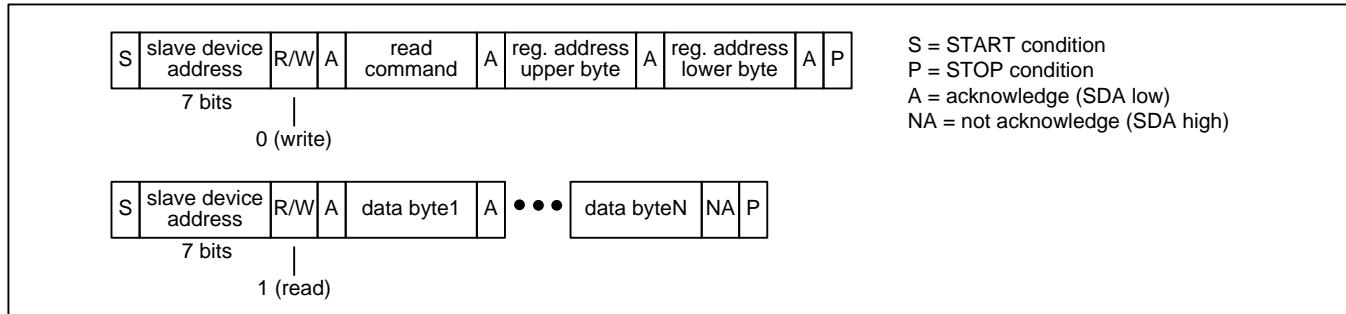
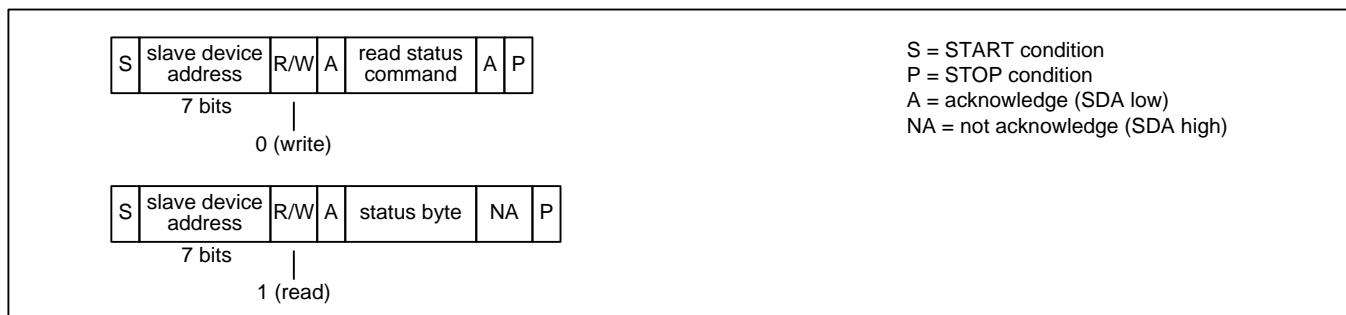

Figure 14 – I²C Read Transaction Functional Timing
Figure 17 – I²C EEPROM Read Status Transaction Functional Timing
Read Transactions. The device registers are accessible when EESEL=0. The internal EEPROM memory is accessible when EESEL=1. The bus master first does an I²C write to the device. In this transaction three bytes are written: the SPI Read command (see Table 4), the upper byte of the register address, and the lower byte of the register address. The bus master then does an I²C read. During each acknowledge (A) bit the device fetches data from the read address and then increments the read address. The device then transmits the data to the bus master during the next 8 SCL cycles. The bus master terminates the read with a not-acknowledge (NA) followed by a STOP condition (P). See Figure 14. Note: If the I²C write is separated from the I²C read by other I²C transactions then the device only outputs the data value from the first address and repeats that same data value after each acknowledge (A) generated by the bus master.
EEPROM Read Status. The bus master first does an I²C write to transmit the SPI Read Status command (see Table 4) to the device. The bus master then does an I²C read to get the status byte. In this byte, the least significant bit is set to 1 if the transfer is still in progress and 0 if the transfer has completed. See Figure 17.
Note: In Figure 14 through Figure 17, a STOP condition (P) immediately followed by a START condition (S) can be replaced by a repeated START condition (Sr) as described in the I²C specification.